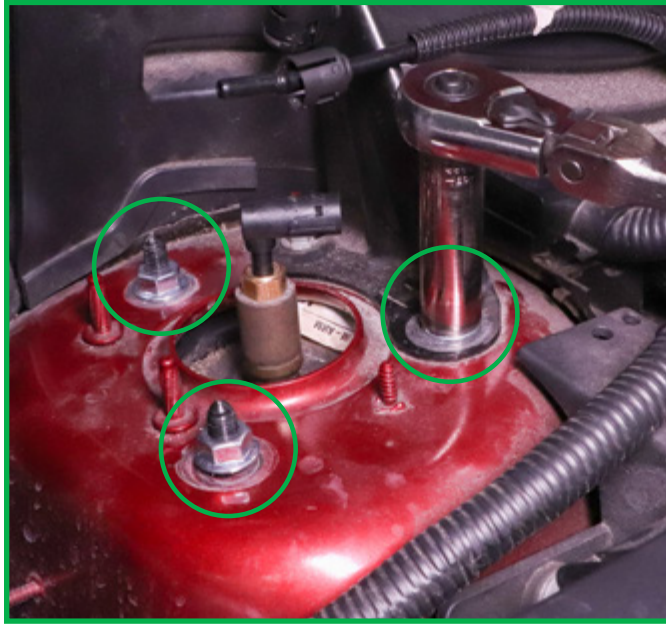

FIGURE 4
5. Remove the three (3) top mount nuts from the air strut. (Figure 4)